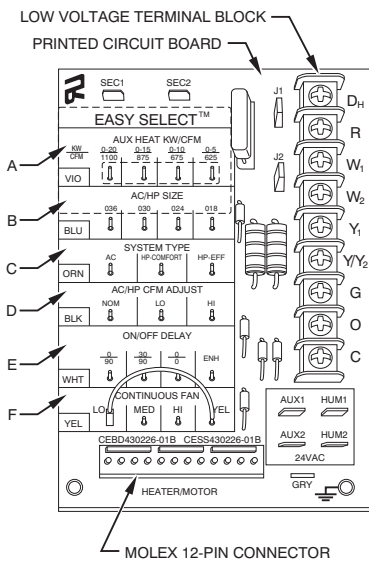

Fig. 17 – Detail of FV4C Printed-Circuit Board
Easy Select™ taps are used by the installer to configure a system. The ECM motor uses the selected taps to modify its operation to a pre-programmed table of airflows. (See Table 3 and 4.) Airflows are based on system size or mode of operation and those airflows are modified in response to other inputs such as the need for de-humidification. (See Fig. 17 and 18.)
Installer must select the auxiliary heat airflow approved for application with kW size heater installed. If no heater is installed, this step can be skipped. Each select pin is marked with a range of heaters for which airflow, also marked, is approved. For increased comfort select the narrowest kW range matching the heater size, for example, 0–10 for 10–kW heater. This airflow must be greater than the minimum CFM for electric heater application with the size system installed for safe and continuous operation. (See Table 5 and 6 for airflow delivery and minimum CFM.) Note that airflow marked is the airflow which will be supplied in emergency heat mode and heating mode on air conditioners when electric heat is the primary heating source. In heat pump heating mode when electric heaters are energized, the ECM motor will run the higher of heat pump heating airflow and electric heater airflow to ensure safe heater operation. The factory selection is the largest heater range approved. (See Fig. 17, A as indicated.)
The factory setting for air conditioner or heat pump size is the largest unit for application with the model of fan coil purchased. Installer needs to select air conditioner or heat pump size to ensure that airflow delivered falls within proper range for the size unit installed. This applies to all operational modes with the exception of electric heat modes. (See Fig. 17, B as indicated.)
3. HP-EFF – Heat Pump Efficiency provides same airflow for heating and cooling modes to increase overall HP efficiency; approximately 350 CFM per ton. The factory setting is AC. (See Fig. 17, C as indicated.)
To provide airflow at rates described above, the AC/HP ADJUST select is factory set to the nominal (nom) tap. The adjust selections HI/LO will regulate airflow supplied for all operational modes, except non-heat pump heating modes. HI provides 15% airflow over nominal unit size selected and LO provides 10% airflow below nominal unit size selected. Adjust selection options are provided to adjust airflow supplied to meet individual installation needs for such things as noise, comfort, and humidity removal. (See Fig. 17, D as indicated.)
Four motor operation delay profiles are provided to customize and enhance system operation. (See Fig. 17, E as indicated)
3. HI speed – move connector of HI, 100% cooling mode airflow. (See Fig. 17, F as indicated.)
The following fan coil configuration is recommended for maximum heating and cooling/dehumidifying comfort: (See Fig. 17.)
7. If the fan coil is installed with Intelligent Heat Staging capable electric heaters, remove jumper J2. (See Fig. 17.)
The AUX and HUM terminals on the Easy Select Board are tied directly to the G terminal, and provide a 24-vac signal whenever the G terminal is energized. (See Fig. 17 and 18.) During Super Dehumidify and SuperComfort / Perfect Heat modes, the G signal is not present and the auxiliary terminals are not energized. If the installation includes the use of these operating modes, do not use these terminals to control accessories. See Electronic Air Cleaner and Humidifier sections for further information.